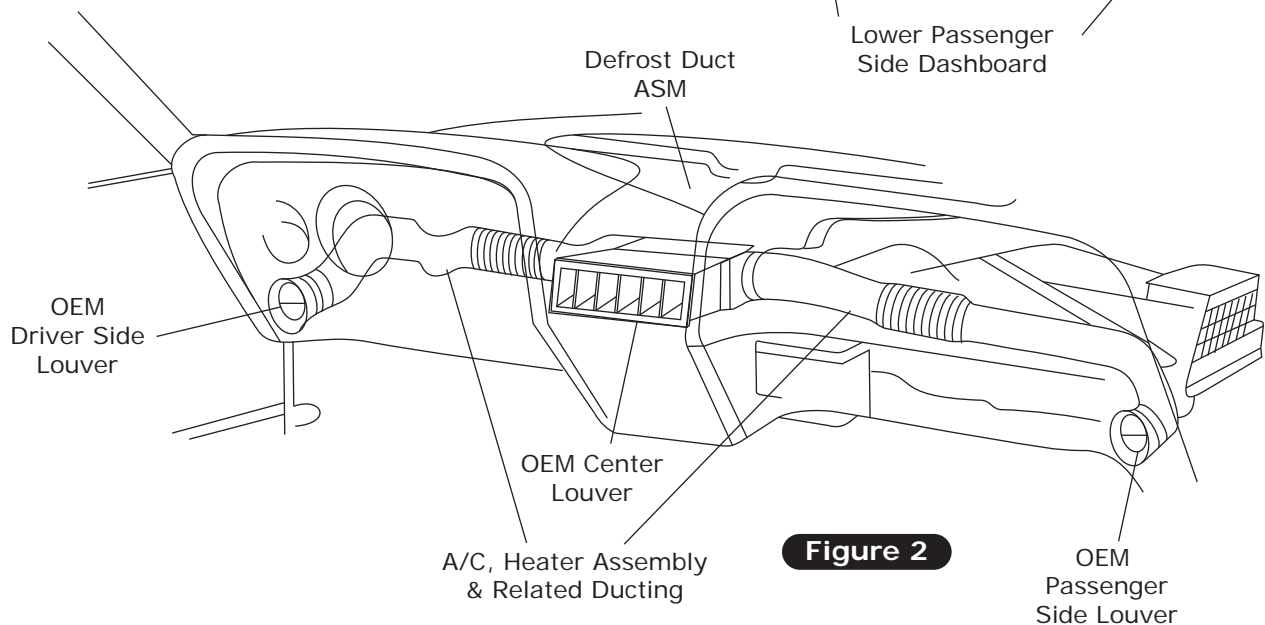

Figure 2
3. Remove the A/C heater/evaporator assembly and all related ducting (discard) (retain screws) (See Figure 2, below).
6. Remove the OEM defrost duct assembly (See Figure 2, below)